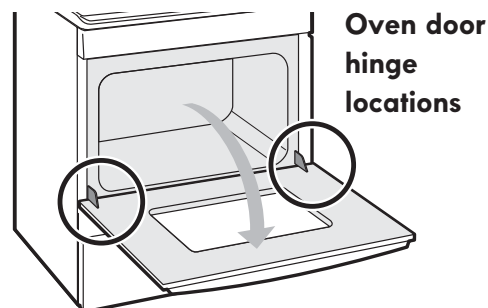

Figure 42: Oven hinge locations
1. Open oven door completely, horizontal with floor (See Figure 42).
3. Fully open the oven door, horizontal with floor (See Figure 42).